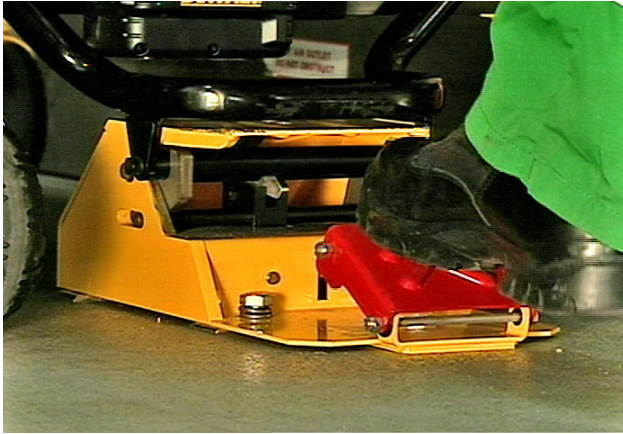

Figure 8: Press Foot End
1. Press down firmly on the foot pedal until the locking mechanism disengages as shown in Figure 8.